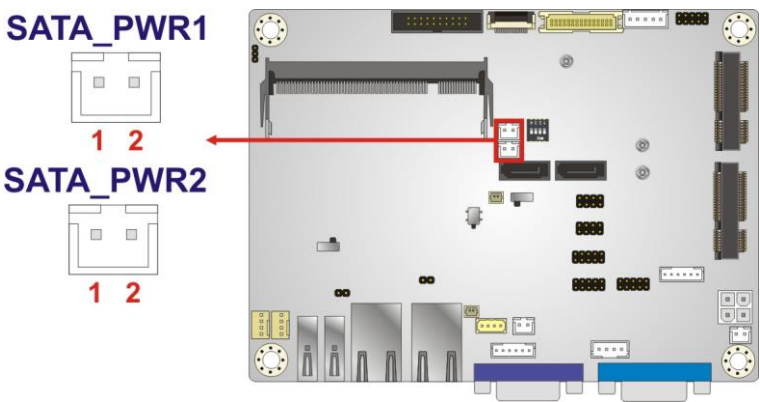

Figure 3-21: SATA Power Connector Locations
- CN Location: See Figure 3-21